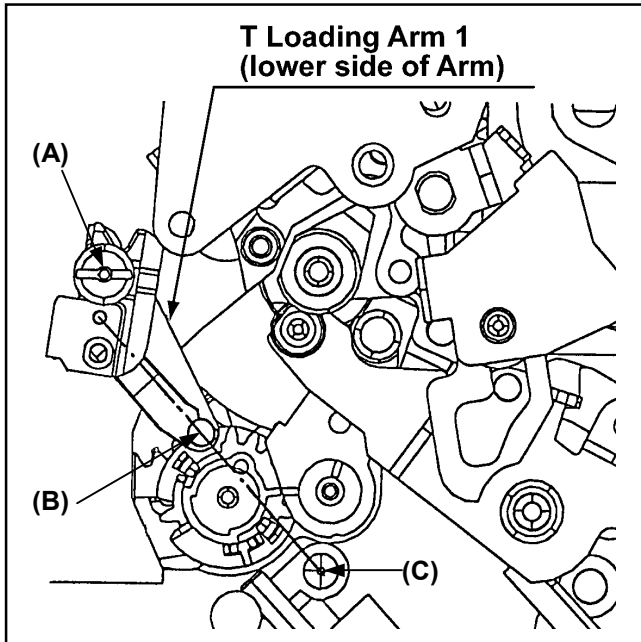

Figure 5-20-2
1. Turn the emergency red screw clockwise and set T1 Boat Unit to the position which the point (A), (B) and (C) in Figure 5-20-2 be on the same line.